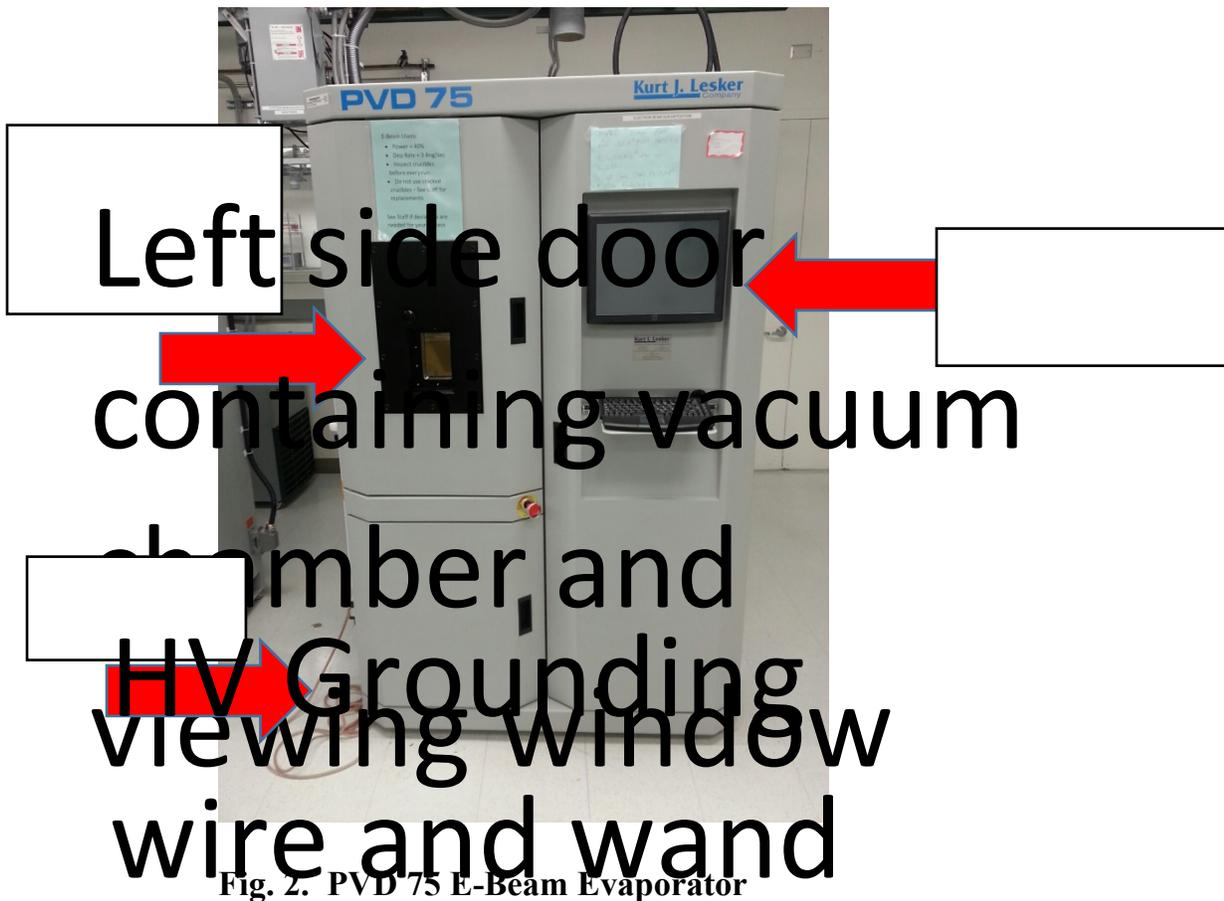

Fig. 2. PVD 75 E-Beam Evaporator
- 2) Open the vacuum chamber to prepare the tool for loading of your sample. Run “Start PC Vent” on the main Vacuum screen, or select it from the options provided on the “Run Recipe” soft button. Both of these soft buttons are visible on the right side of the main vacuum screen. See Fig. 2.